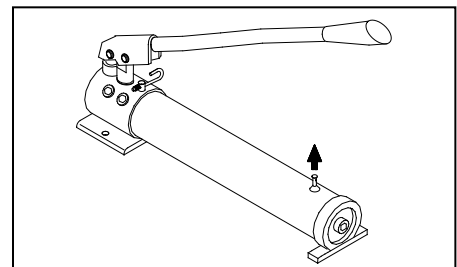

Figure 4 - Pull stem upward before use, press down when moving or storing pump.
- Pull vent plug stem upward before use, press down when moving or storing the pump (Fig. 4).